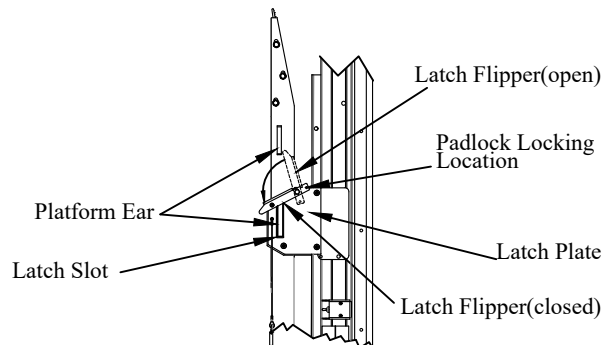

Figure 22: Steps 16 & 17.
- Step 16. Hold the platform vertical against the latch flipper with one hand and slowly lower the platform into the latch plates until the platform ear reaches the bottom of the latch slot and the latch flipper is closed. Insert the detent pin through the flipper and latch plate (Figure 22).
- Step 17. Always install the latch padlock and deactivate the control when not in use (Figure 22).